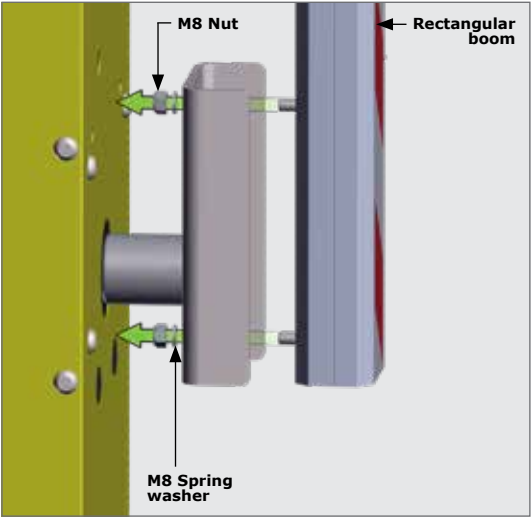

FIGURE 21
28. Fasten the rectangular boom pole to the coupler as shown in Figure 21.